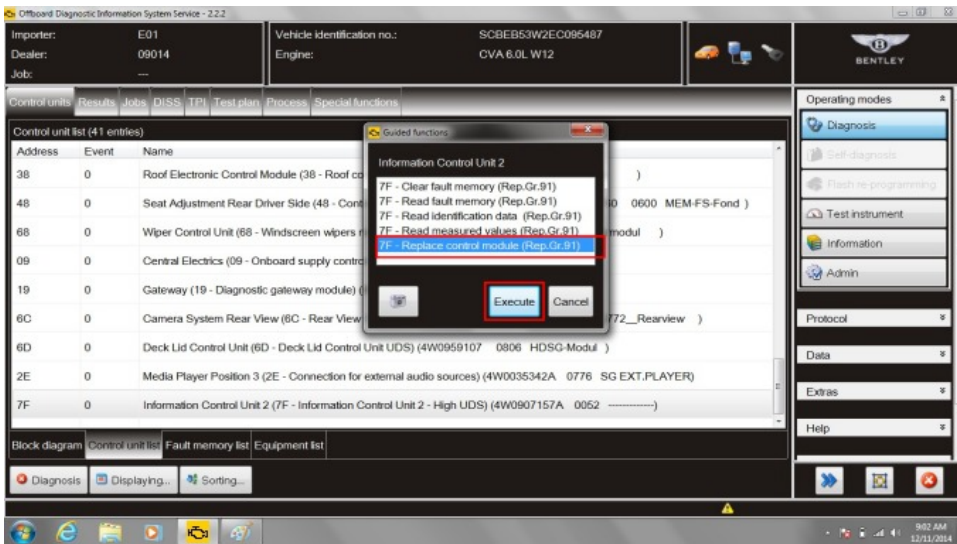

Figure 12
20. Within Control units, Information Control Unit 2, Select *Replace control module* and then *Execute* (see Figure 12)